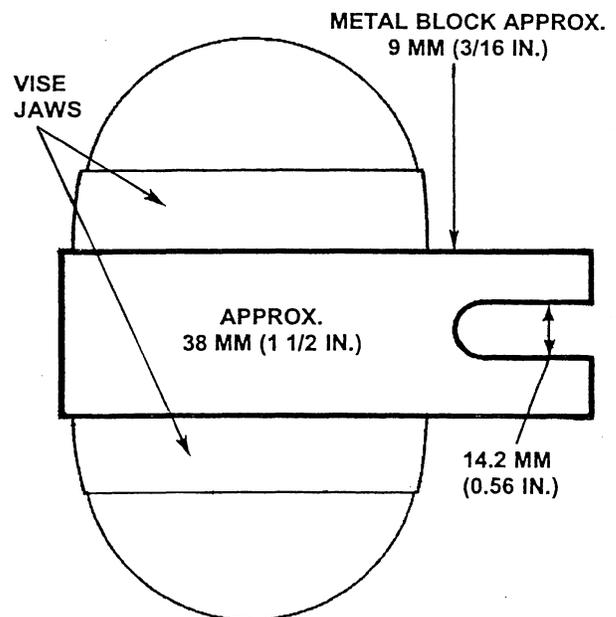

FIGURE 12. PINION STOP SUPPORT BLOCK
1. The drive shaft support (17) to the drive shaft (15), seating the bearing (10) in the support.
2. The clutch drive assembly (2) to the drive shaft (15).
3. A new pinion stop (12) onto the drive shaft (15), the end with the recess for the stop rings (35) up.
- a. Install the stop rings (35) in the groove in the drive shaft (15).
- b. Pick up and support the assembly under the pinion stop (12). A metal block, with a U-shaped cutout that will slide over the shaft between the pinion gear and the stop, can be clamped in a vise to provide support (see Figure 12).
- c. Make sure the stop rings (35) (in the drive shaft groove) are fully seated in the pinion stop recess and stake the upper edge of the pinion gear (12) over the stop ring (35) at four places, equally spaced. Do not allow staked metal to contact the drive shaft (15).